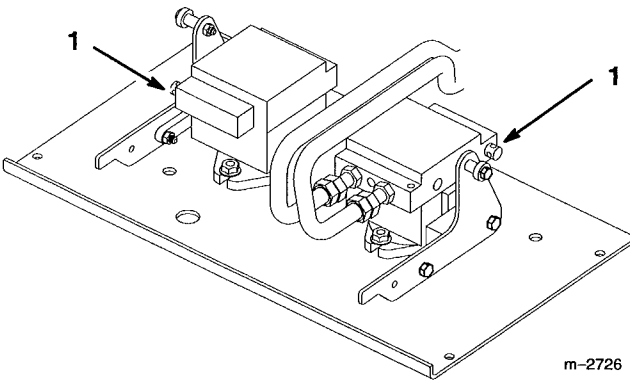

Figure 13
2. Rotate the by-pass valves counterclockwise 2 turns to push. This allows hydraulic fluid to by-pass the pump enabling the wheels to turn (Fig. 13).
1. Turn the by-pass valves in to operate (Fig. 13).